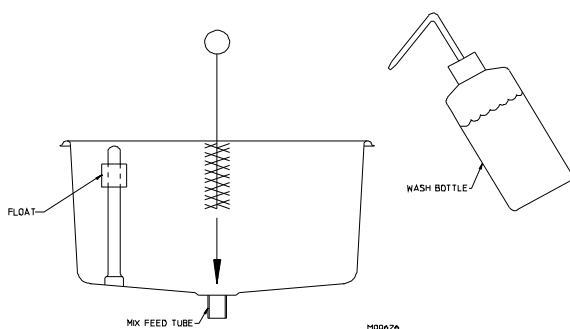
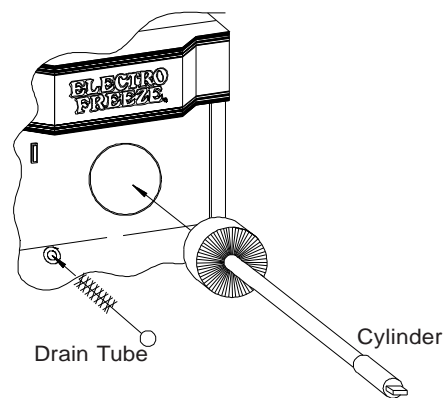

Figure 6-9 Clean hopper and mix feed port
Figure 6-10 Clean drain tube & cylinder
6. Using proper brush, brush the hopper inlet tube (figure 6-9), the drain tube, the cylinder, and cylinder back wall (figure 6-10), thoroughly with dish detergent solution. Rinse using rinse bottle. Using sanitizing solution, repeat brushing procedure making sure all surfaces contact sanitizer.